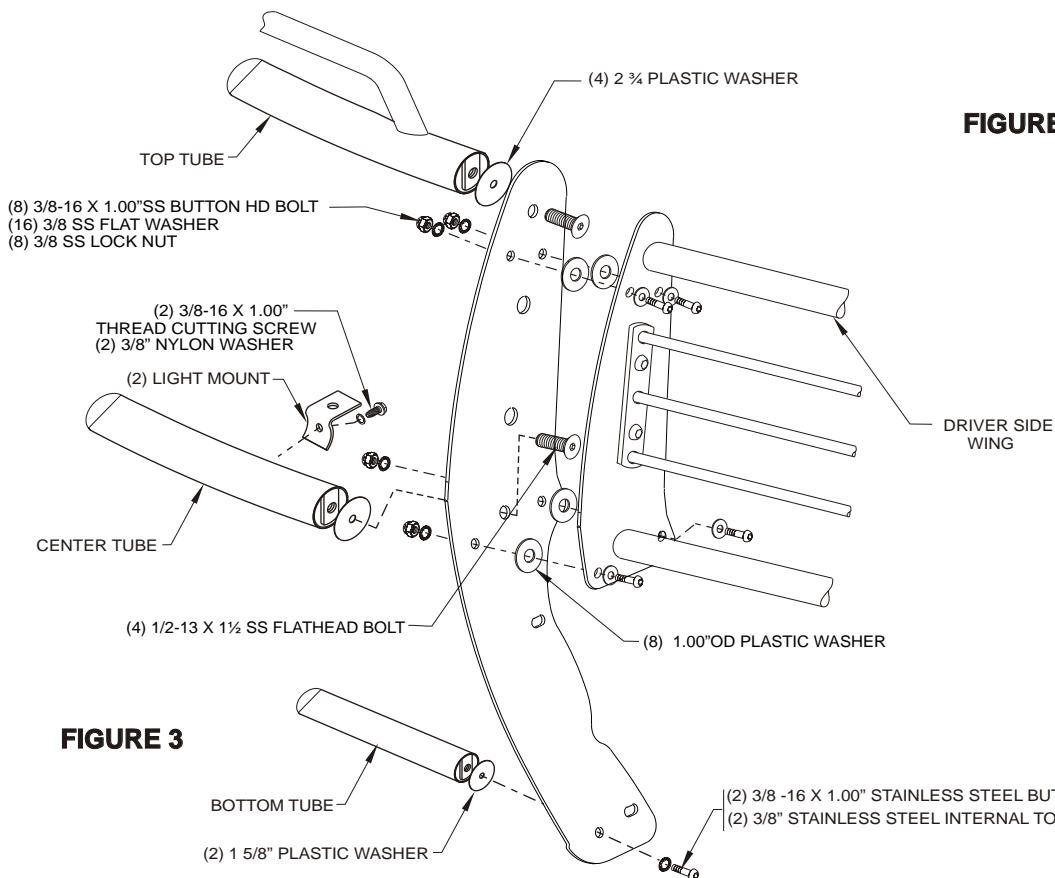

FIGURE 3
- STEP 6. Determine passenger and driver side uprights, hood bar/top tube assembly, center tube and bottom tube. (Uprights are positioned so raised side of bolt holes are facing each other.) SEE FIGURE 3.
- STEP 7. Fasten uprights to hood bar/top tube assembly, center tube and bottom tube using (4) 1/2-13 x 1.50" stainless steel flat head bolts, (4) 2.75" plastic washers, (2) 3/8-16 x 1.00" stainless steel button head cap screws, (2) 3/8" stainless steel internal tooth lock washer and (2) 1.625" plastic washers. Level tubes and torque 1/2" fasteners to 60 FT. LBS . and 3/8" fasteners to 30 FT. LBS.
- STEP 8. Determine passenger and driver wing assemblies. Install driver side wing assembly using (4) 3/8-16 x 1.00" stainless steel button head cap screws, (8) 3/8" stainless steel flat washers, (4) 3/8-16" stainless steel nylock nuts and 1.00" plastic washers. Tighten and torque to 35 FT. LBS. Repeat for opposite side.